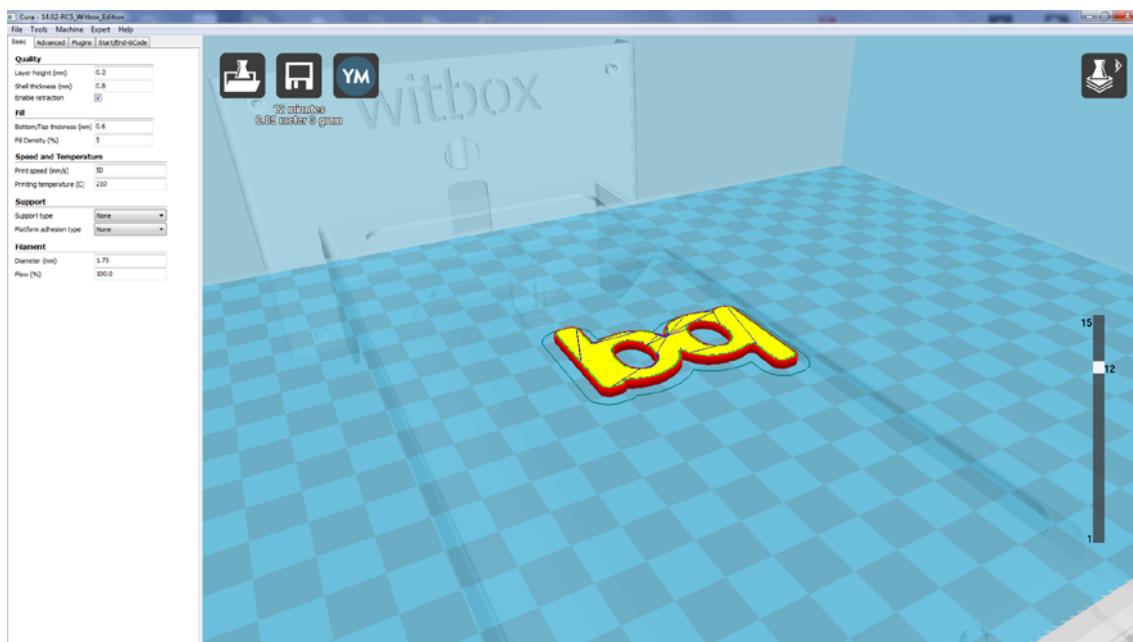

Figure 4.11 Layer view mode
- **Layers:** this mode allows you to view the various layers that will comprise the final object. Moreover, there is an option on the right-hand side of the window that allows you to see how the object will be constructed layer by layer, which can help you identify any potential errors in the layering process (fig. 4.11).